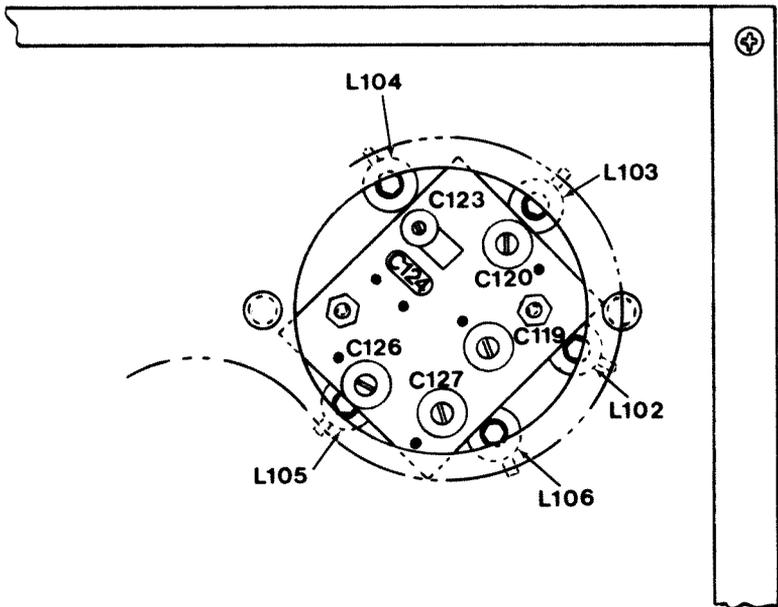

Figure 6-1. Tuning Coil Location – Model 256 CB/RF Generator
4. Adjust L105 (see tuning adjustment location diagram, Figure 6-1) until the counter reads between 99.5 and 100.5kHz.